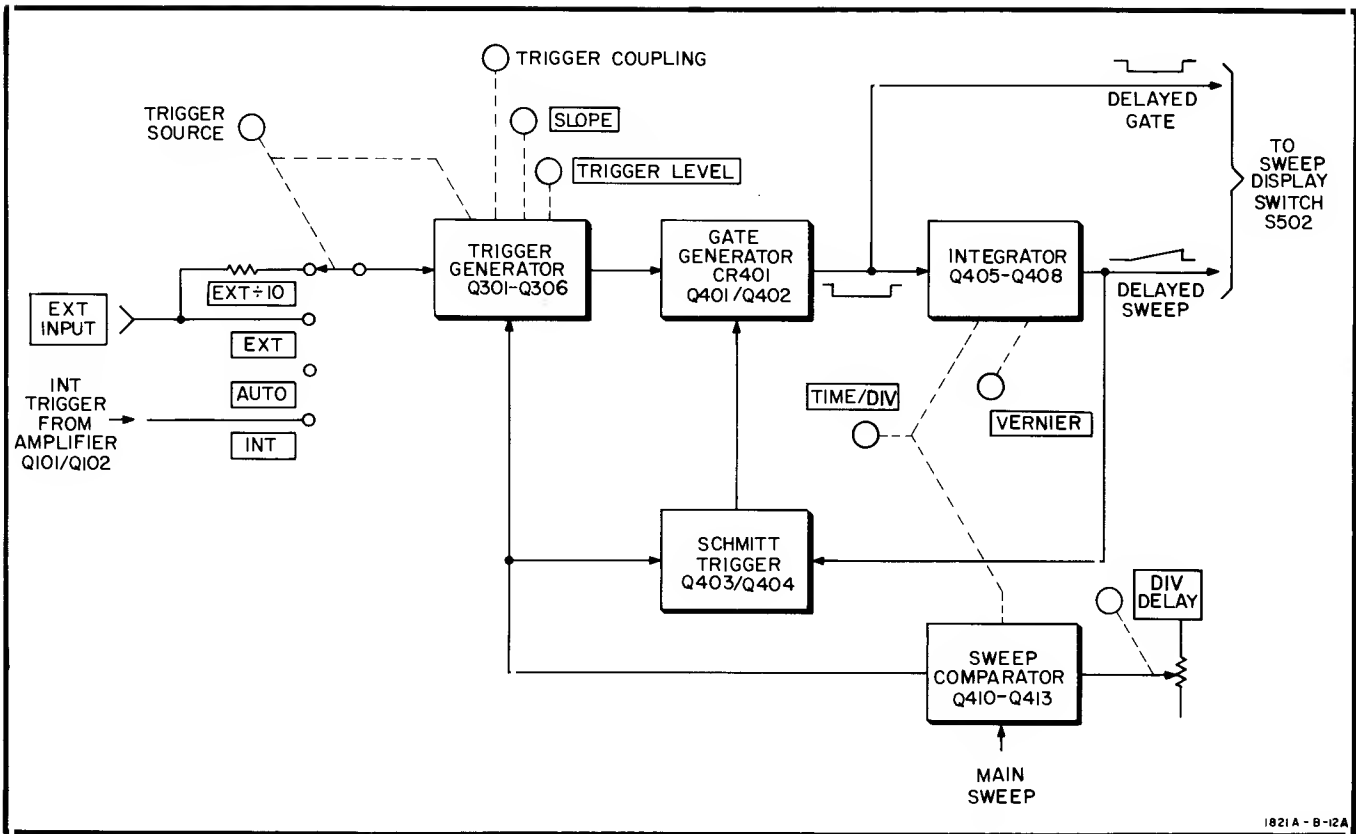

Figure 4-3. Delayed Sweep Circuit Block Diagram
4-27. A block diagram of the delayed sweep circuit is shown in Figure 4-3. The delayed sweep circuit is similar to the main sweep circuit. There are, however, three main differences: (1) the hold-off circuit is replaced by the sweep comparator; (2) there is no auto circuit; (3) triggering from the power-line waveform is replaced by automatic triggering.